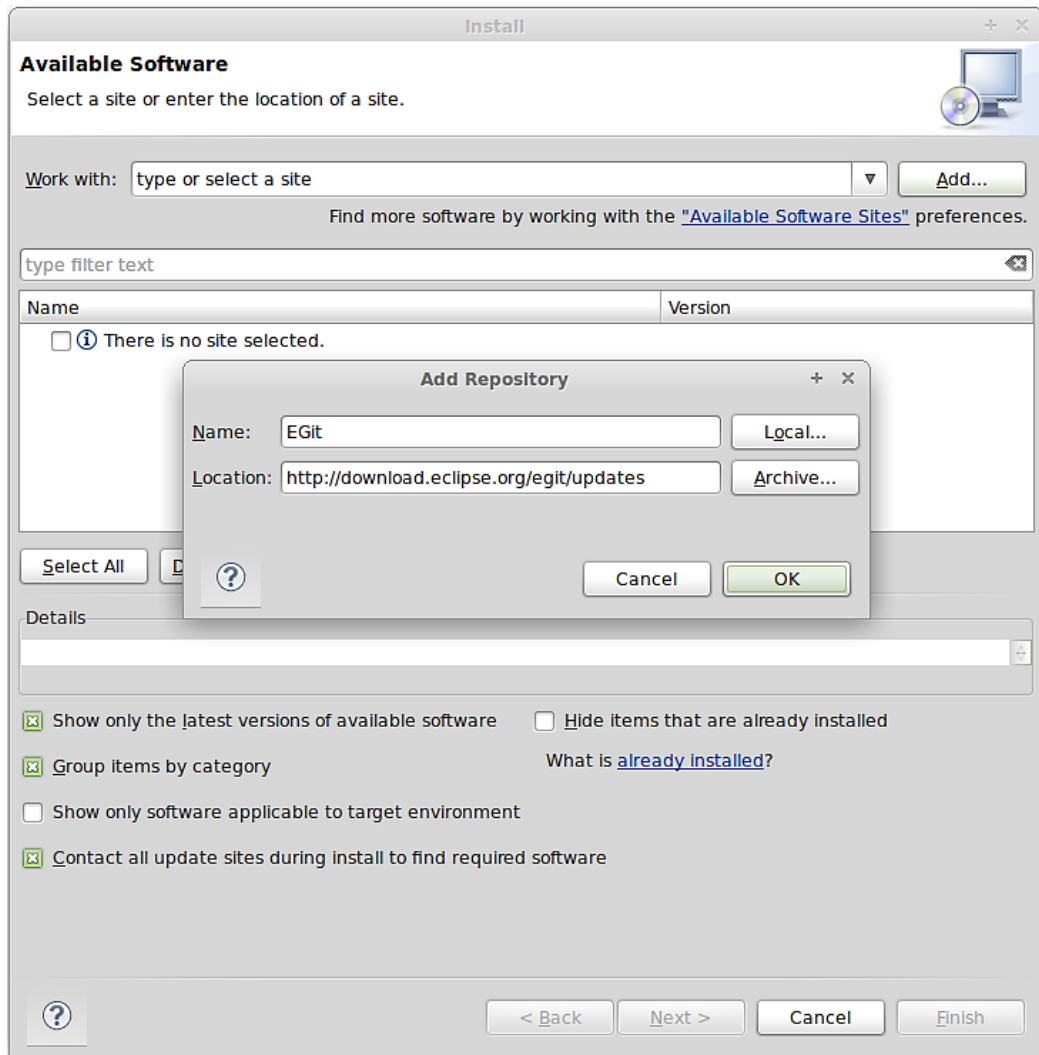

Figure 52: Installing Eclipse Egit Plug-in (continued)
- As shown in Figure 52 enter the following: